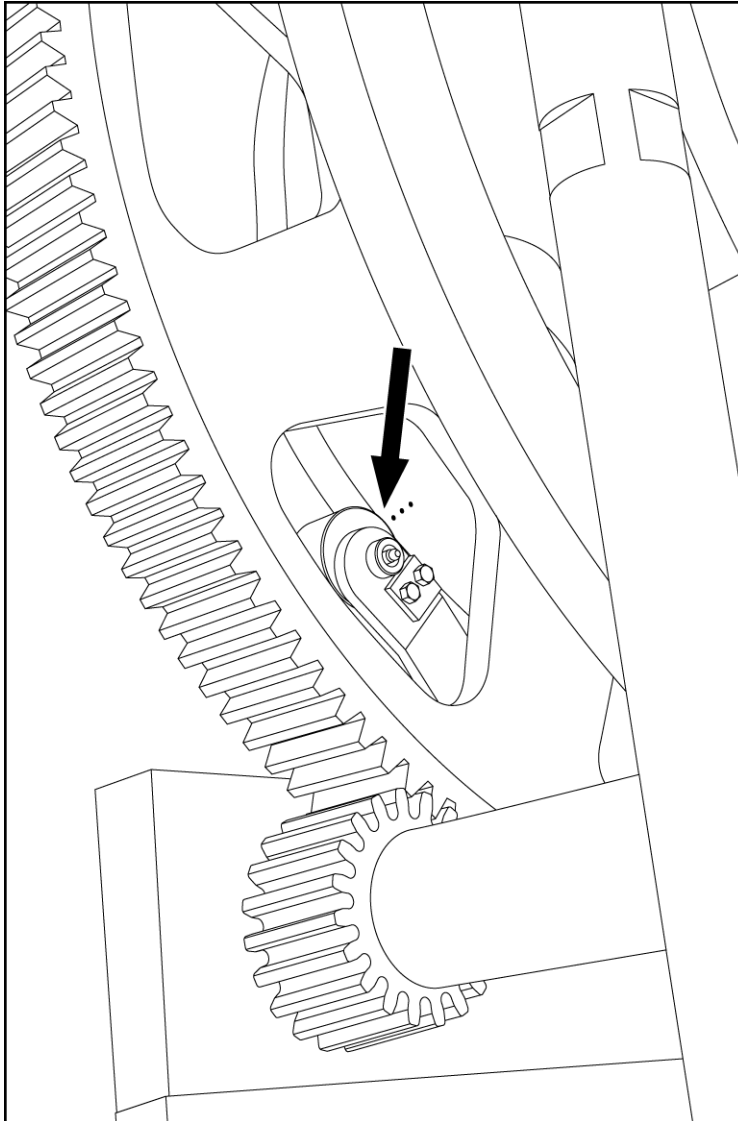

Figure 6.6 PALLET RAISING CAM
- 6.2.1 Run machine to align punch marks on pallet raising cam (innermost cam on left side of machine) with center of roller that it contacts (see figure 6.6).